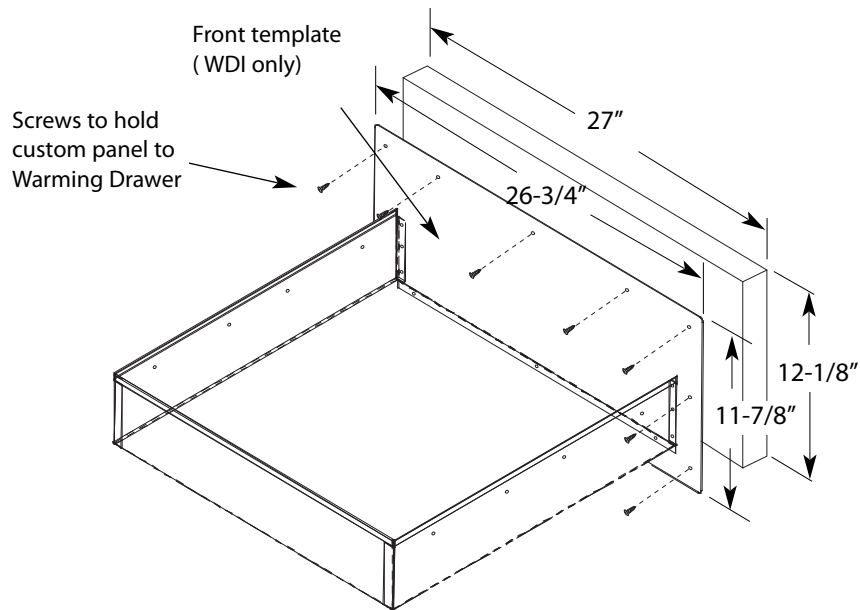

Fig. 08
2. Check the dimensions of the front template. (See fig. 08.)
5. Fasten the custom panel with the supplied screws as shown in fig. 08 .